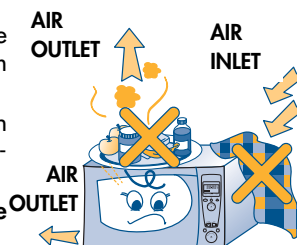

fig. 7
- 6) Do not block the air intake vents. Do not place any objects on top of the oven and check that the air and steam outlet vents (at the top, bottom and/or rear of the oven) are ALWAYS UNOBSTRUCTED (fig. 7)
- 7) Place the turntable support ring (I) in the centre of the circular recess in the oven floor and place the turntable (H) on top of it. Engage the spindle (D) with the recess in the centre of the turntable.